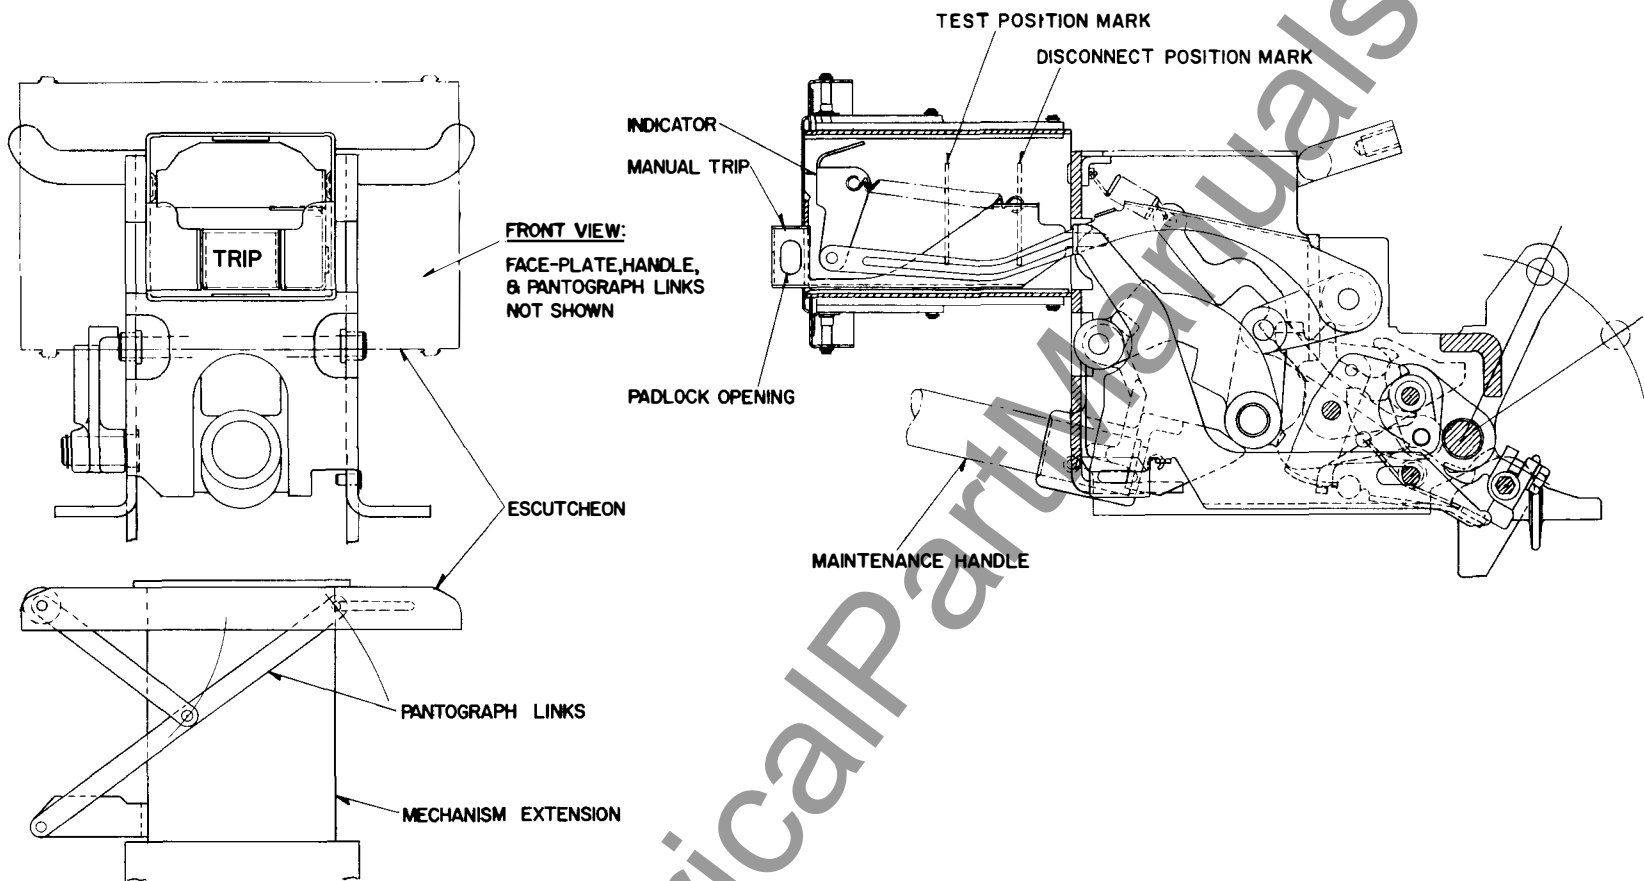

FIG. 6 - Type DB-75 and DB-100 Three Position Operating Mechanism.
2. Operating Mechanism - Type DB-75 or DB-100 Fig. 6